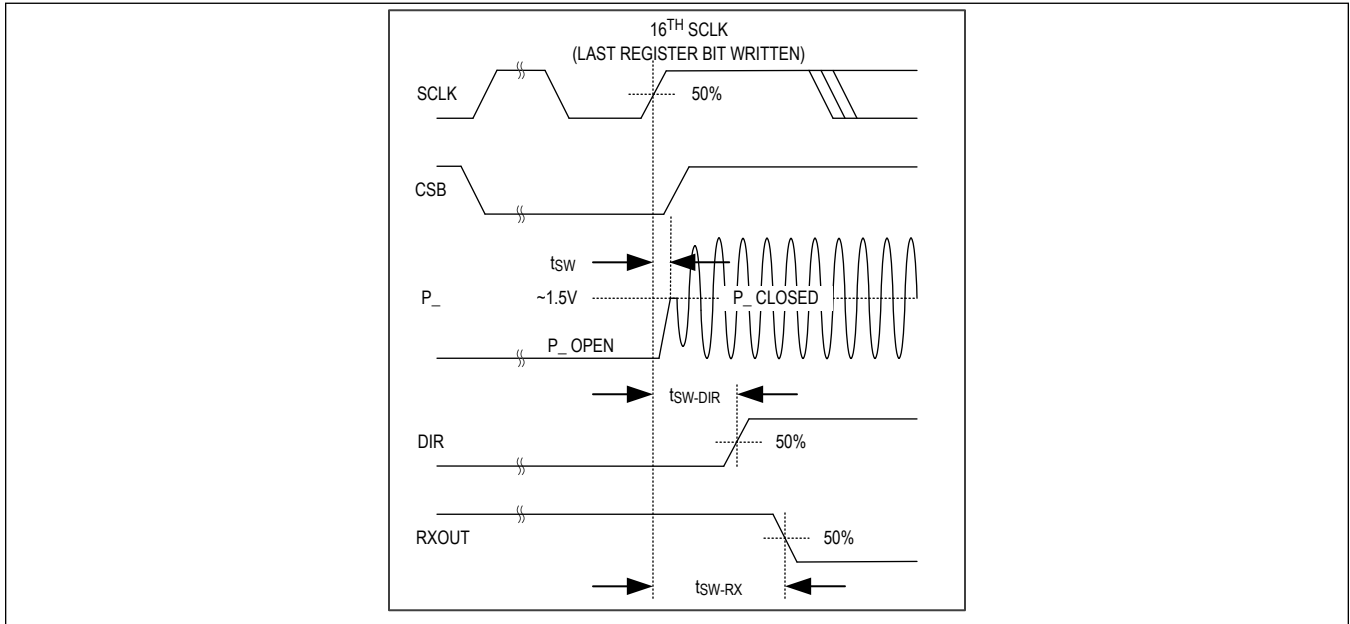

Figure 3. Switch Timing
**Note 10:** Switch time is defined from the rising edge of 16th SCLK during a change to the RFPOR register to the settled DC bias on the selected RF port. See Figure 3.
between the SPI clock domain and the internal operational clock domain. **Figure 3** shows how the MUX switch time is measured from the 16th SCLK transition to the measured 1.5V DC bias on the RF port ( $t_{SW}$ ), to the DIR output transition ( $t_{SW-DIR}$ ), and to the first RXOUT bit ( $t_{SW-RX}$ ).